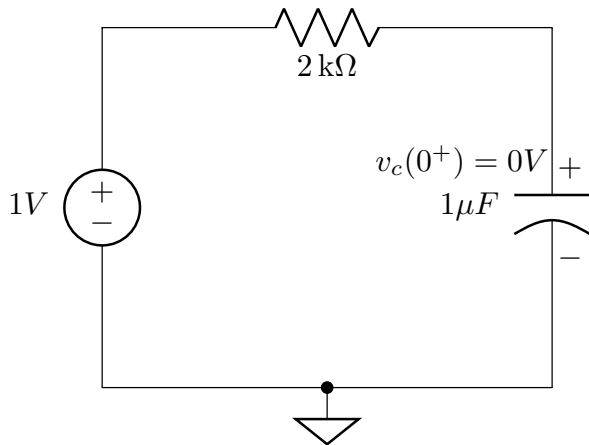
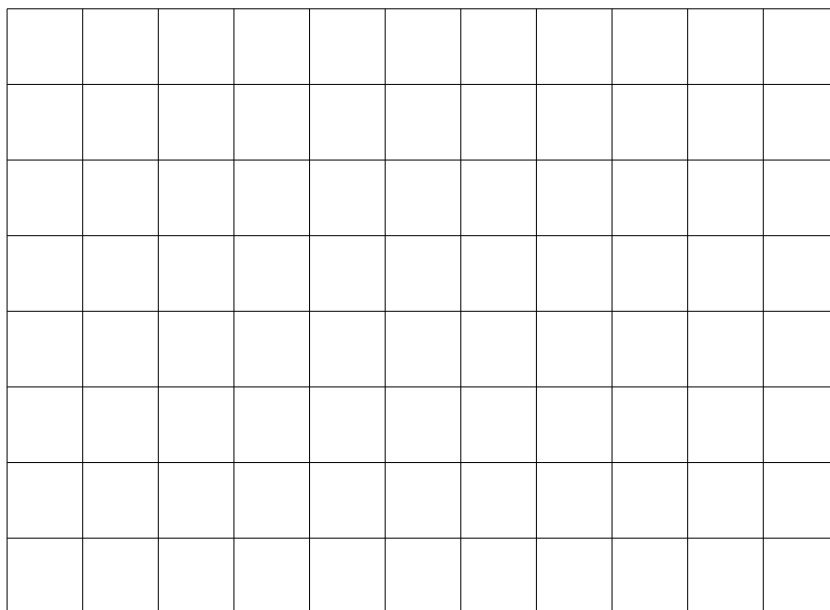

Figure 1: First-order RC circuit.
**Figure 3:** PSPICE schematic for circuit in Fig. 1.
Consider the RC circuit shown in Fig. 1. Find the equation for the voltage across the capacitor.
Calculate the time constant of the RC circuit in Fig. 1. Assuming that the capacitor was fully discharged at  $t = 0$ , i.e.,  $v_c(0^-) = v_c(0^+) = 0V$ , find the equation for the voltage across the capacitor. The generic equation for the voltage across a capacitor is given as **[1 marks]**
2.2.2.2 Construct the circuit shown in Fig. 1 in the PSPICE schematic. The PSPICE schematic should look similar to the one shown in Fig. 3.